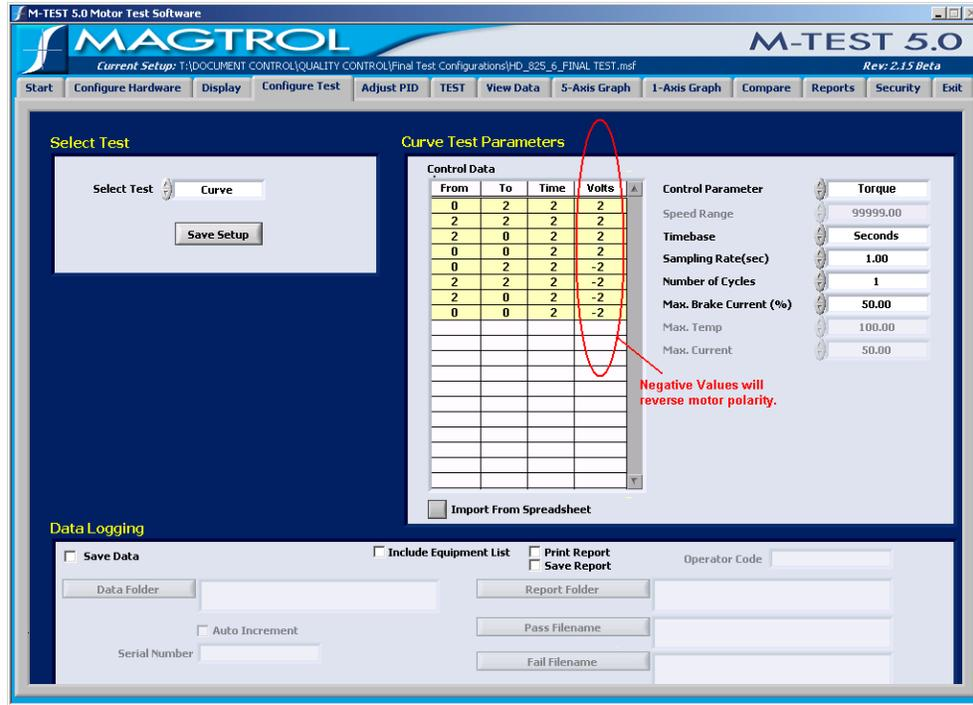

Figure 4–6 Curve Test Parameters with Motor Reversal
3. To have the motor direction reversed during a test, simply enter a negative voltage, as shown in Figure 4–6.